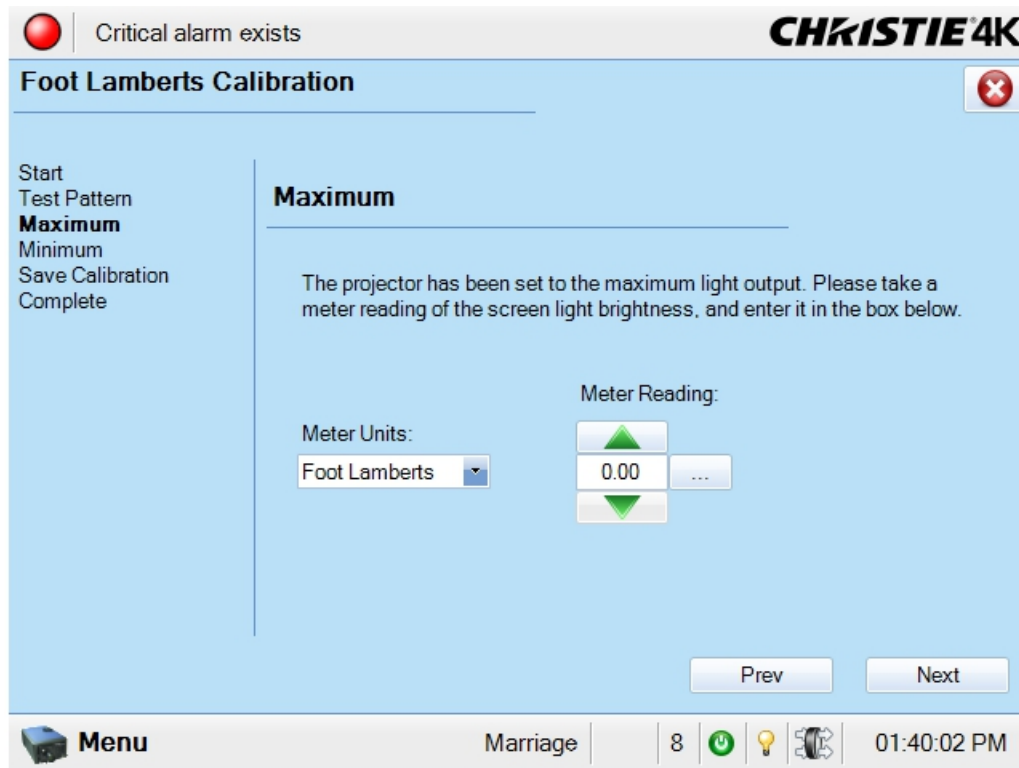

Figure 3-50 Record the Meter Reading at Maximum Light Output
3. In the **Maximum** window, the projector sets the lamp to the maximum light output. Measure the screen light output at the screen with a light meter and enter the value in the **Meter Reading** text region by clicking the **up/down** buttons or clicking the **Launch Dialog** button to launch the on-screen keyboard to enter this value. (Figure 3-50). Values can range from 0.00 to 1000.00. In the **Meter Units** list, select the preferred units (Foot Lamberts or Candelas). Once complete, click the **Next** button to proceed to the **Minimum** window.